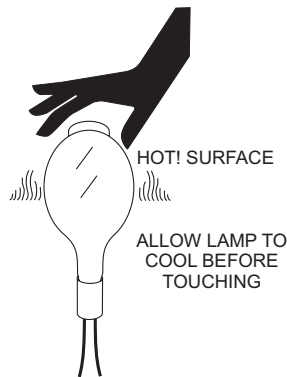

Figure 7. Hot Lamp Surface
1. Make sure lamp (Figure 7) has had a sufficient amount of time to **cool down**.